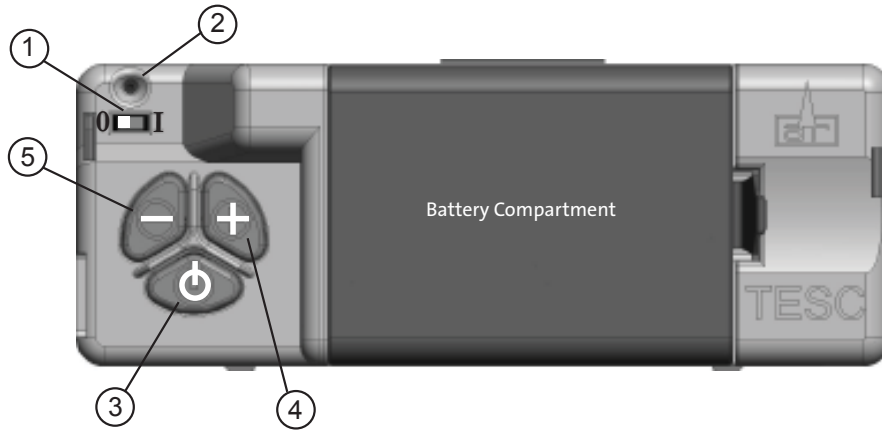

Figure 18. Valve Controls
1. Slide the white Master switch to the left (O) position to disconnect power, Fig. 18.
1. Place the TESC valve Master power switch in the ON position. Fig. 18, #1.